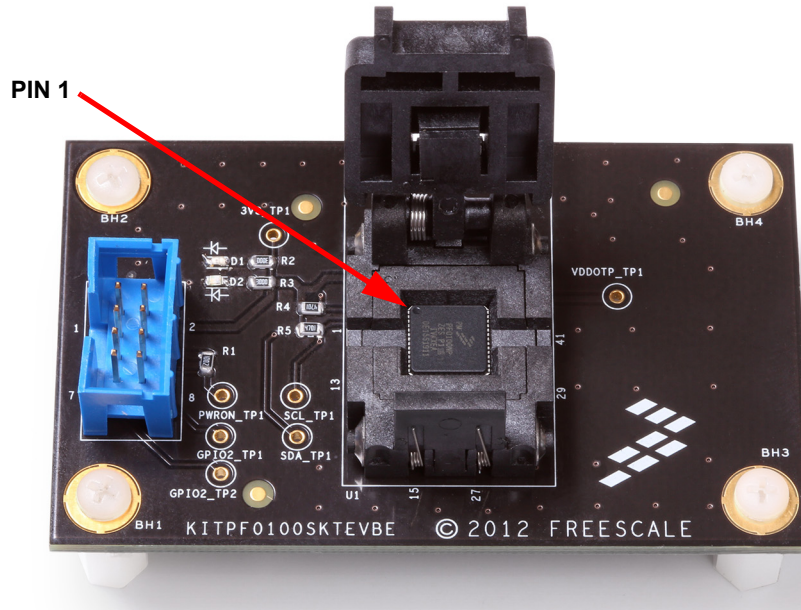

Figure 3. PF0x00 Pin 1 Location
1. Insert the PF0x00 chip into the socket U1. Make sure pin 1 is correctly located on the top-left corner of the socket as shown in Figure 3.